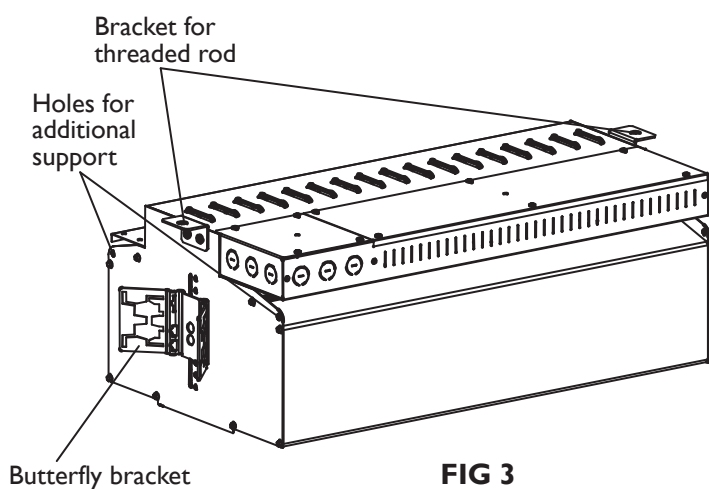

FIG 3
1.5 - Alternately, use the holes in the top corners of the housing for extra support (Fig. 3).